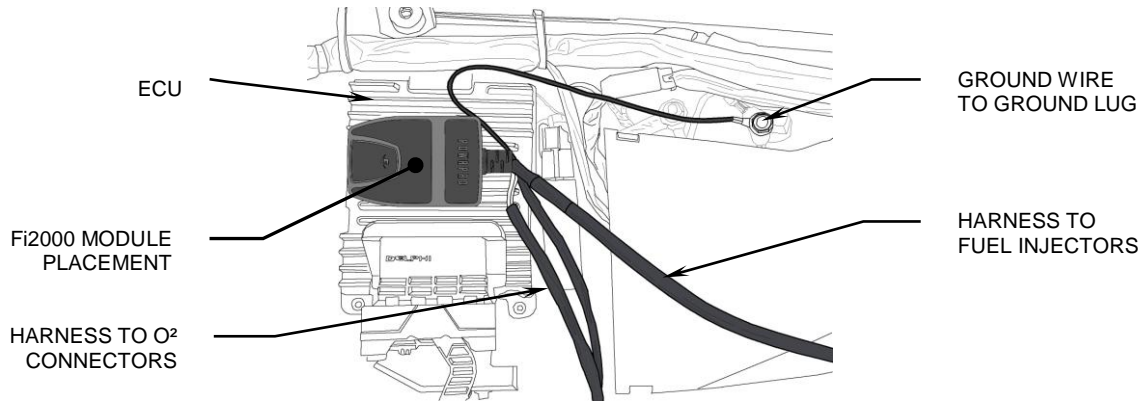

FIGURE 1
2. Place the Fi2000 module on top of the ECU, see Figure 1. Run the two oxygen sensor harnesses inside the right side frame rail and plastic housing for the stock wiring. Look for the fuel tank vent hose and follow it.
10. Attach the ground wire to ground lug and Velcro the Fi2000 module to the top of the stock ECU, see Figure 1.